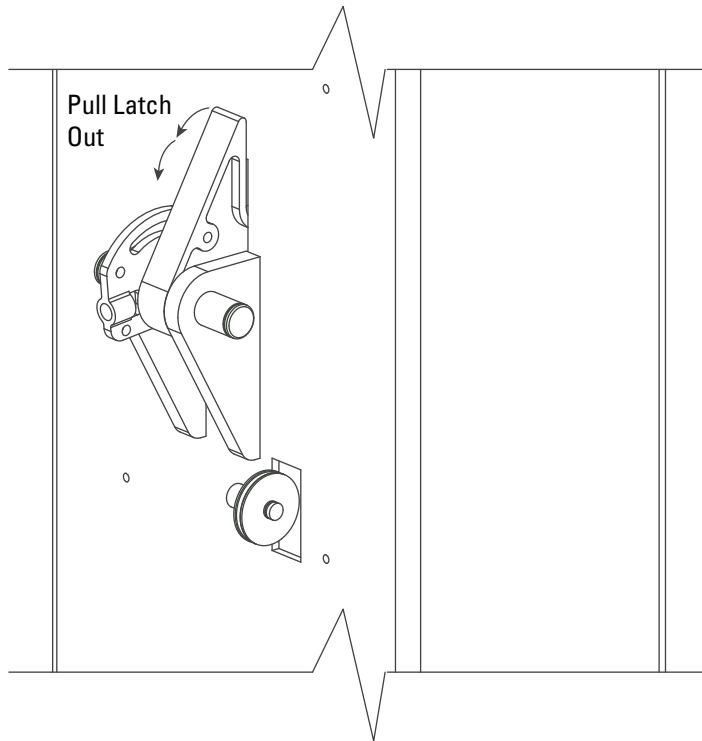

Figure 6
6. Carriage Placement. Disengage the latch by pulling out the latch on the column, figure 6. Slide the carriage to the leg's baseplate. Engage the latch by releasing the latch. Slide the carriage up until the first "click" is heard. Repeat the process for the other carriage.